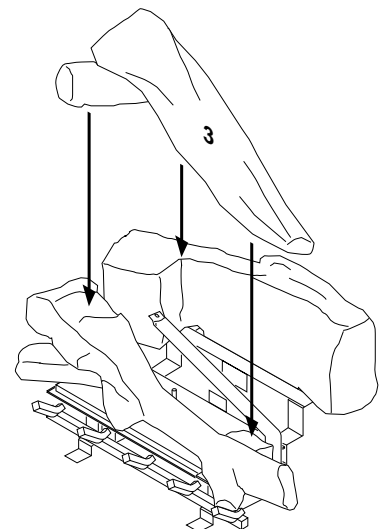

Figure 49 - Installing Log Assembly No. 3
3. Place log #3 (crossover assembly) onto the notched out section of log #2. Log #3 rests on the back portion of front log and in the crook of back log (see Figure 49).